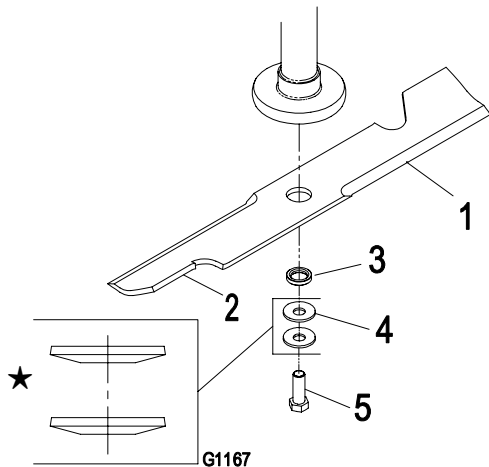

Figure 38
2. With the wrench still on the blade bolt, hold the blade spindle stationary and using a rag or thickly padded glove, try to rotate the blade. If the blade rotates relative to the spindle guard without further tightening the blade bolt, the two spring disk washers have been flattened or damaged and must be replaced (Figure 38). Refer to Removing and Installing the Blades.
3. Once the blade has been removed, inspect the two spring disk washers. If the washers appeared to be damaged (the washer surface has been marred) or flattened they must be replaced. (Figure 38).
Hold the blade end using a rag or thickly-padded glove (or place a wrench on the top sheave nut). Remove the blade bolt, two spring disk washers, bushing, and blade from the spindle shaft (Figure 38).
1. Install the blade onto the spindle shaft (Figure 38).
2. Hold the blade end using a rag or thickly-padded glove (or place a wrench on the top sheave nut). Install the bushing, two spring disk washers (cupped side toward the blade) and blade bolt (Figure 38).